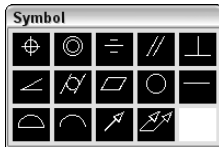

**Figure 15-38:** Use the Symbol dialog box to choose the symbol for the type of geometry for which you want to specify tolerance.
1. Click the first Sym box to open the Symbol dialog box, shown in Figure 15-38.